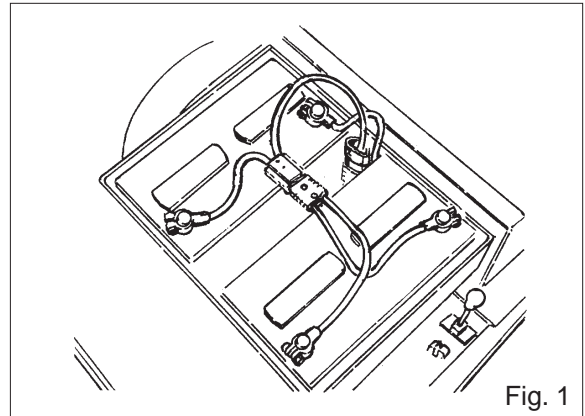

Fig. 1
2. Connect the DC connector on the charger to the connecting plug on the batteries. See Fig. 1